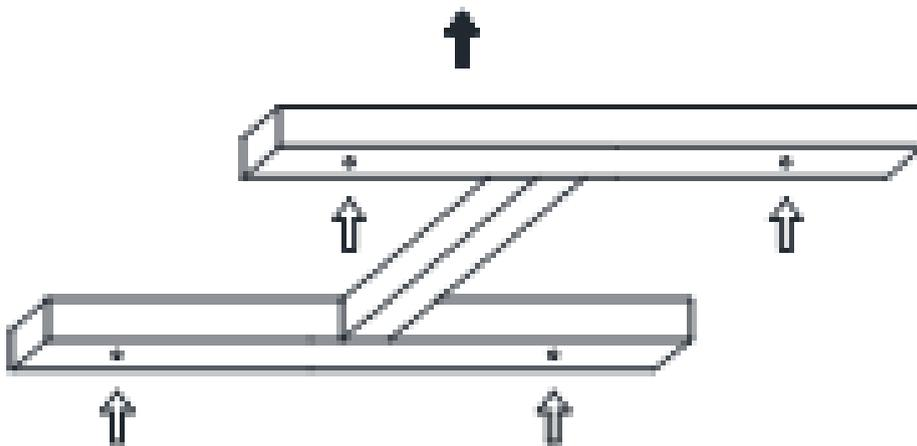

Figure 1 - attaching panel frame to the ceiling
- i. Upon arrival, the panel frame will be screwed to the panel. The shape of the frame will depend on the shape of the panel. Figure 1 below shows an “H” shape frame, but it can also be rectangular.
- iii. Drill holes in the ceiling at the marked position, making sure that they are the right size for the screw plugs provided in the installation kit. Using the screws and screw plugs provided, secure the frame to the ceiling (see figure 1).